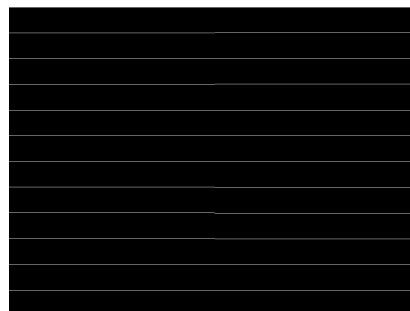

Figure 7. Example of Horizontal Lines Test Pattern
10. As noted in Table 4, the colors for the horizontal lines pattern are specified using both the foreground and background colors. The foreground color is used for the horizontal lines, and the background color is used for the space between the lines. As noted in Table 5, the user specifies the foreground line width, as well as the background line width. The user must determine the line spacing for each resolution display. For example, if the foreground line width = 1, and the background line width = 9, there would be a single pixel horizontal line on every tenth line. An example of a horizontal lines pattern is shown in Figure 7.